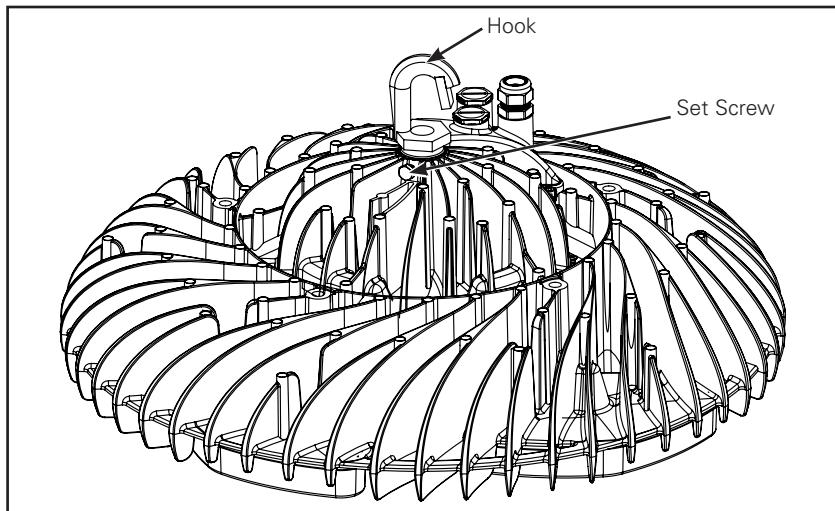

Figure 4.
- Thread the $\frac{3}{4}$ " NPT conduit hook into the luminaire until tight (Figure 4).